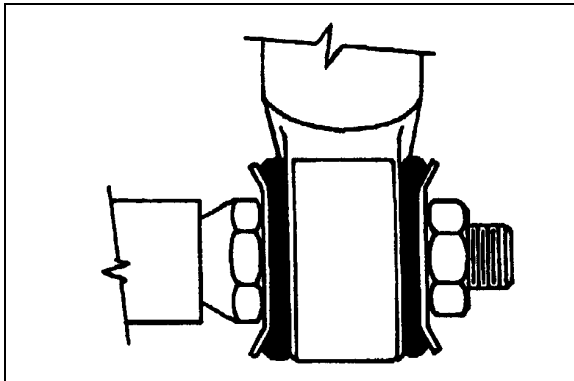

FIGURE 5: TYPICAL SHOCK ABSORBER SETUP 16008
3. Place the inner washers (with washer convex side facing the shock absorber rubber bushing) on each shock absorber pin (Fig. 5).